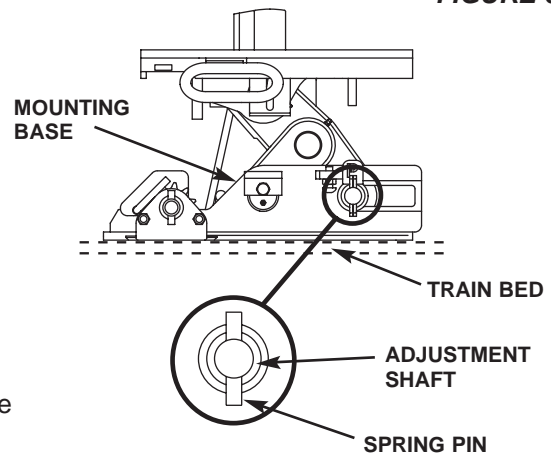

FIGURE 6
2. Place the key onto the shaft nearest to the buffers of the railcar (see fig. 6) and turn through 90° to lock or unlock.